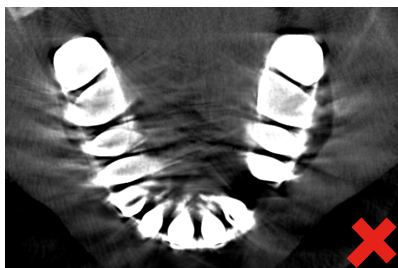

Figure 3: Metal artifacts
- Ensure that at least four teeth per quadrant on the 3D X-ray scan do not have any metal artifacts (see figure 3).